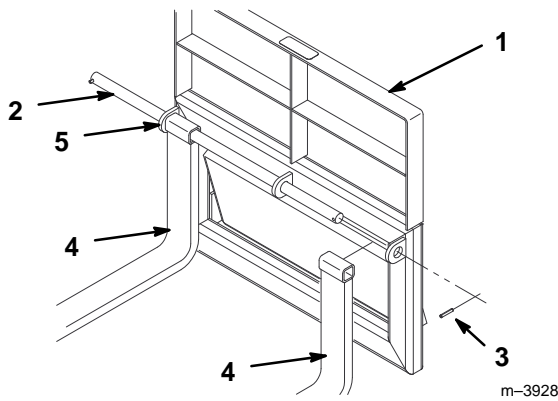

Figure 2
- Remove the roll pin from one end of the mounting pin (Fig. 2).
- Slide the mounting pin through the brackets on the frame and the sockets on the forks as illustrated in Figure 2.